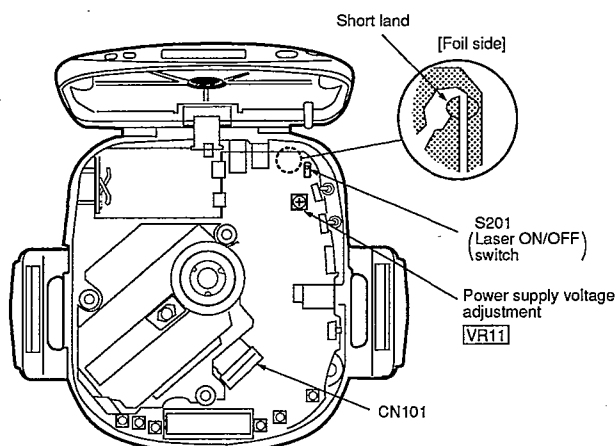

Fig. 1
Short-circuit the lands of the laser ON/OFF switch (S201) by soldering them. It turns “ON” position. (Refer to below **Fig. 1** or printed circuit board and wiring connection diagram for short land location on page 26.)
2. Take care to connect CN101, as shown in **Fig. 1**.
4. Adjust **VR11** on the P.C.B. at 3.32 ± 0.02 V, as shown in **Fig. 1**.